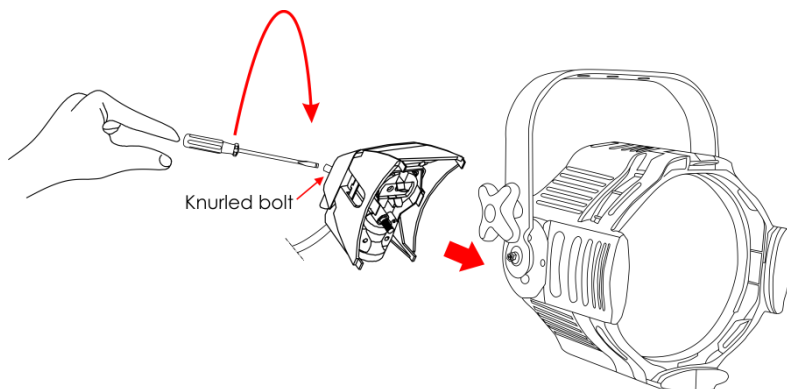

Fig. 06
- 05) Replace the lamp housing (Fig.06).